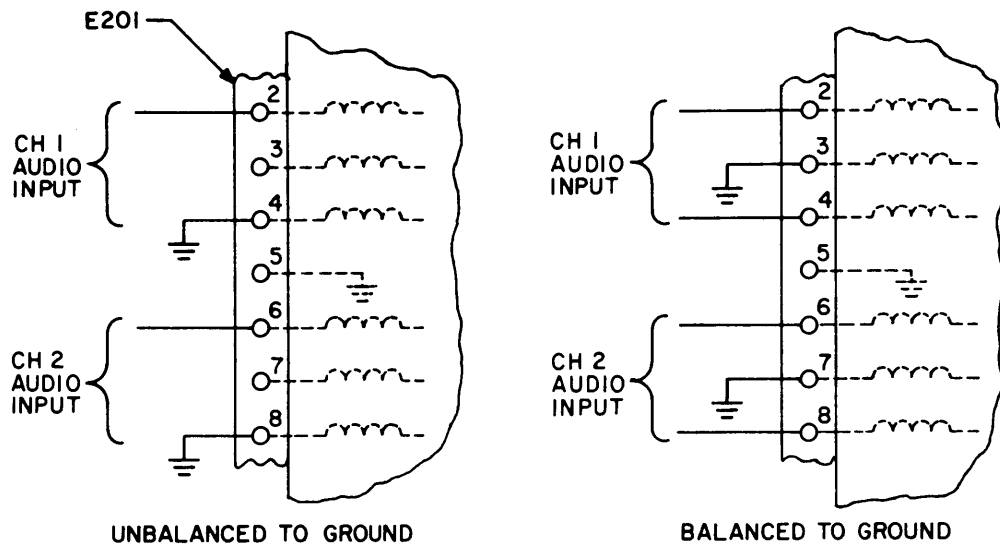

Figure 2-3. Connection Diagram-Audio Input
f. Connect audio input to the CBE by connecting leads from the audio source provided in the associated equipment of the TMC exciter rack. Use leads and connections specified in the TMC exciter rack technical manual. These leads and connections are part of the rack wiring harness. If the CBE is not used in this equipment, refer to figure 2-3 to determine connections for any audio source with a 2-channel audio output of 600-ohm impedance.